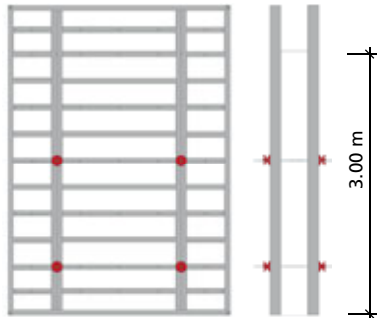

Fig. 33.1
■ Panels up to 3.00 m concreting height do not require tying at the top tie holes (Fig. 33.1).